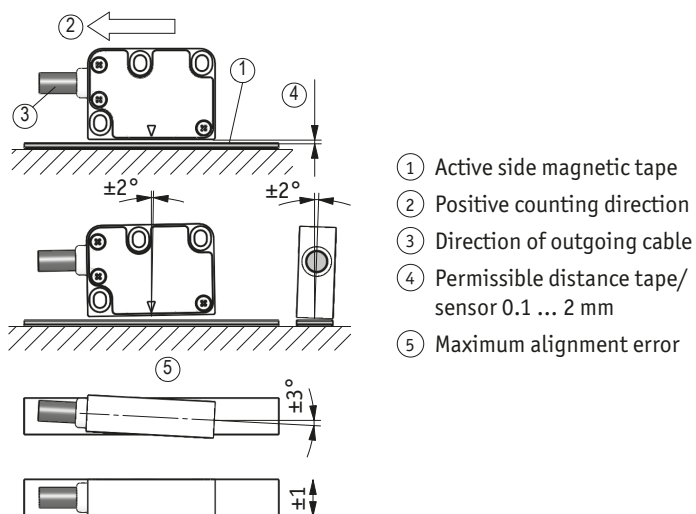
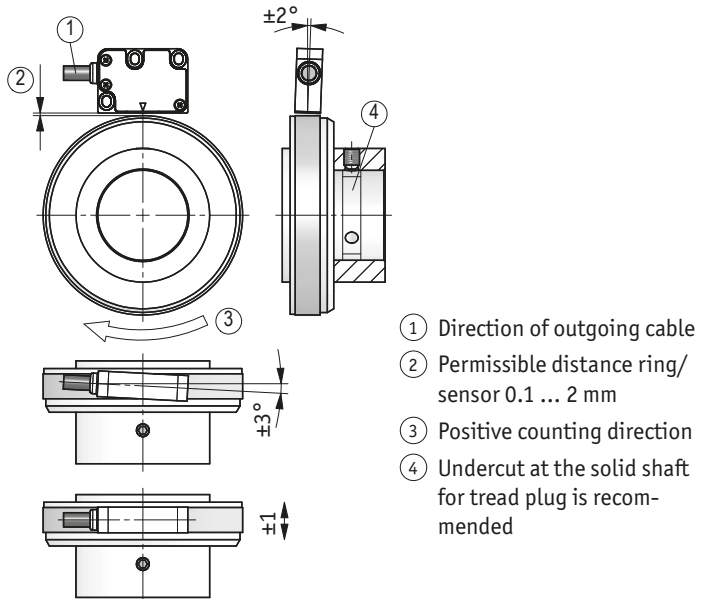

Fig. 6: Mounting sensor / magnetic tape, gap measure, tolerances
Fig. 7: Definition of the counting direction and mounting of sensor/magnetic band ring / magnetic ring, clearances, tolerances
- ▶ Take care that the magnetic sensor is aligned correctly in order to ensure optimum sensing (see Fig. 6). The enclosed distance gauge is suitable for this purpose.
- Sensor's active side not mounted towards the magnetic tape (see Fig. 6 and Fig. 7).